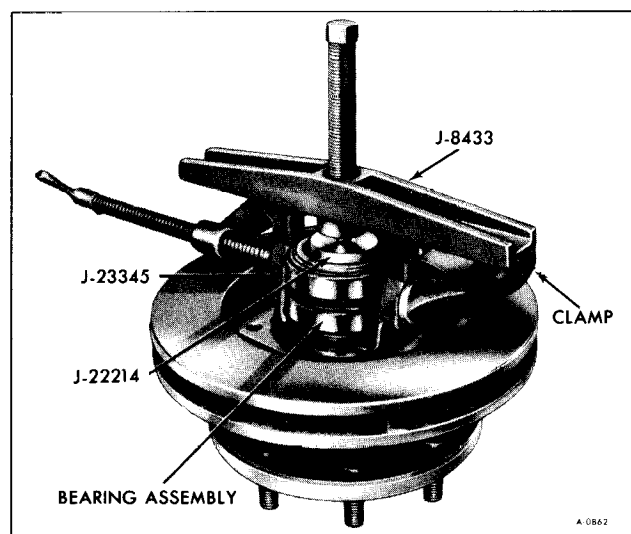

Figure 19—Bearing Removal
13. Position tool assembly as shown in Figure 19.